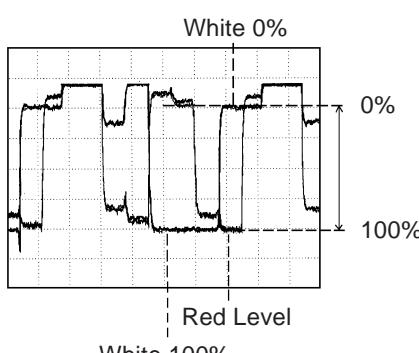

Fig. 2-6
7. Press the VOL. UP/DOWN button on the remote control until the red color level is adjusted to  $100 \pm 5\%$  of the white level. (**Refer to Fig. 2-6**)